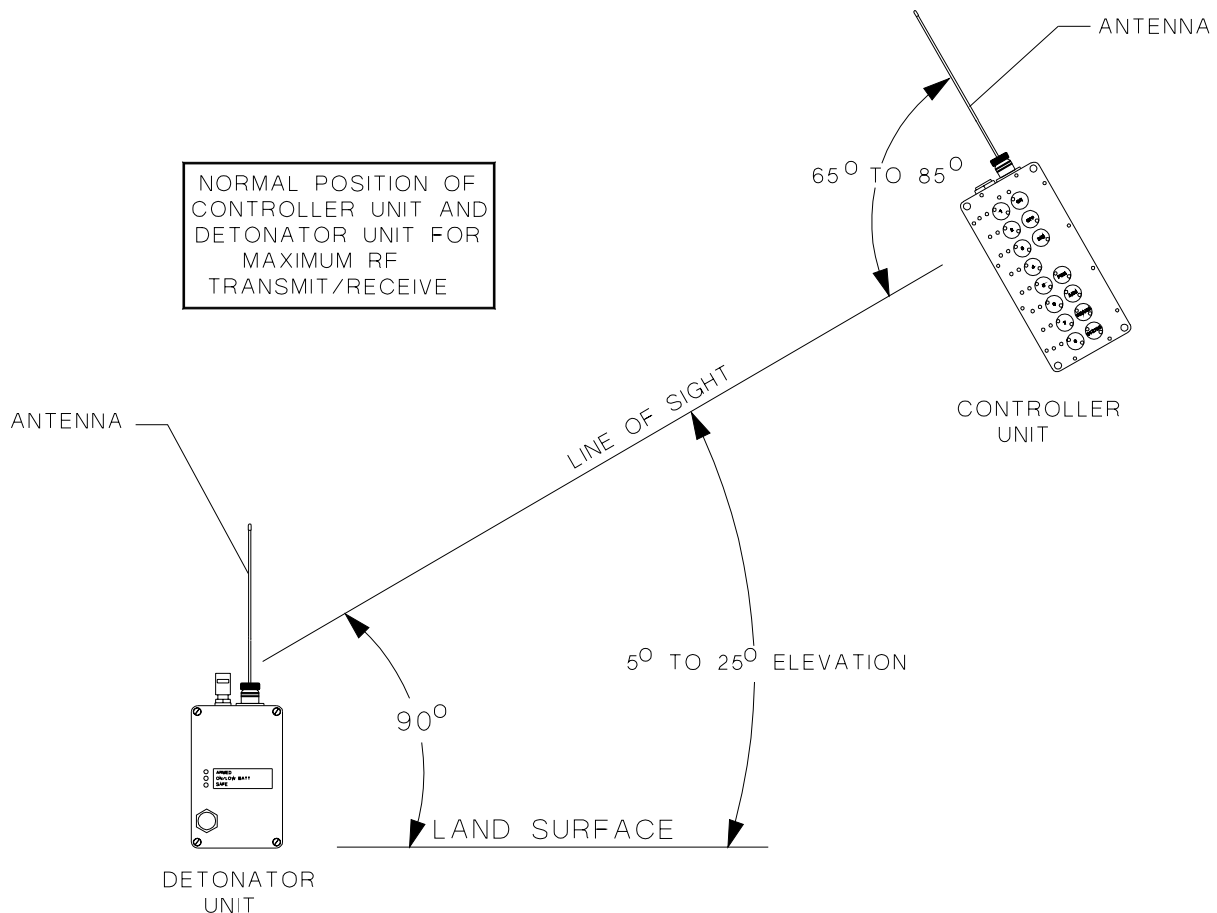
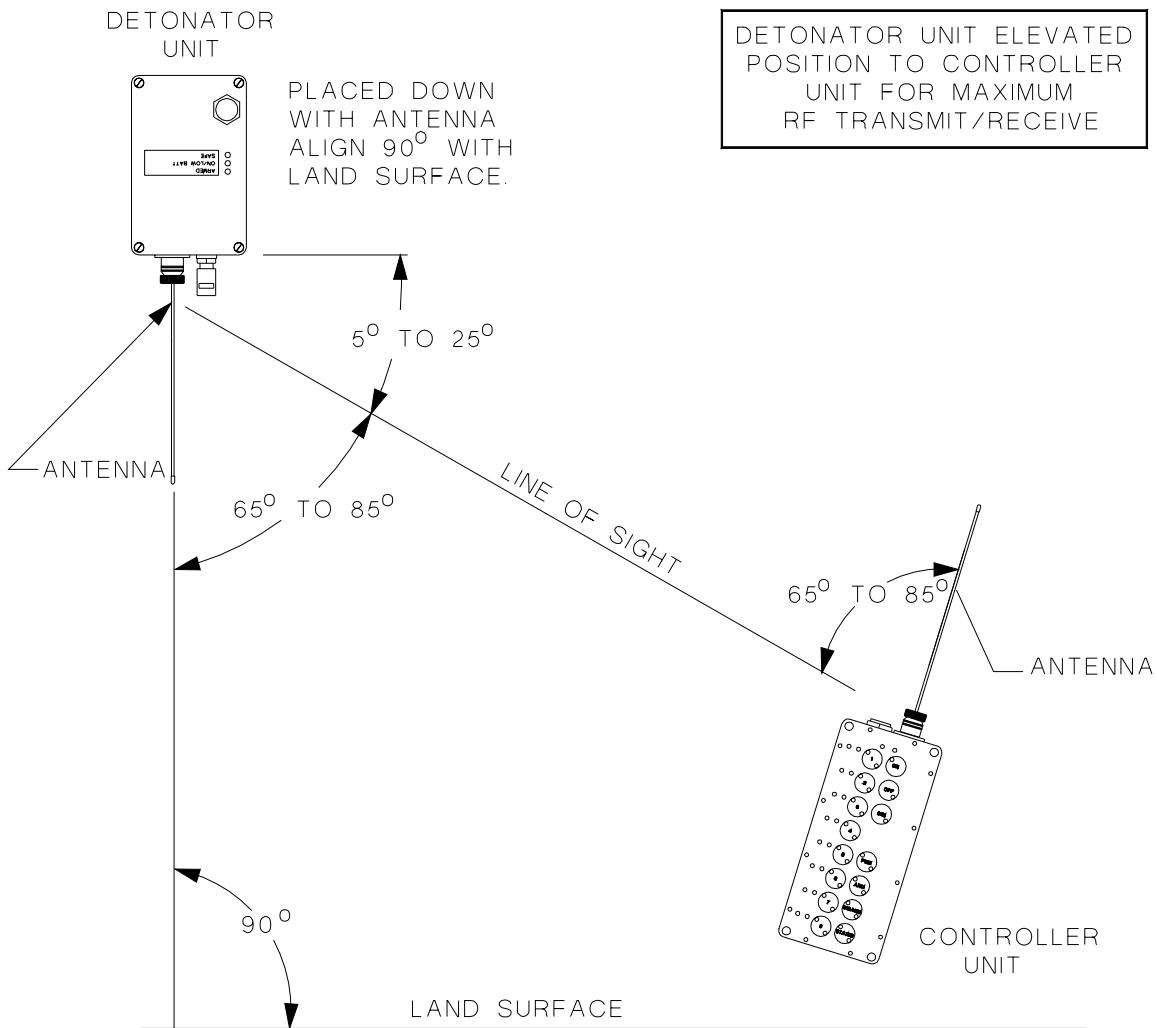
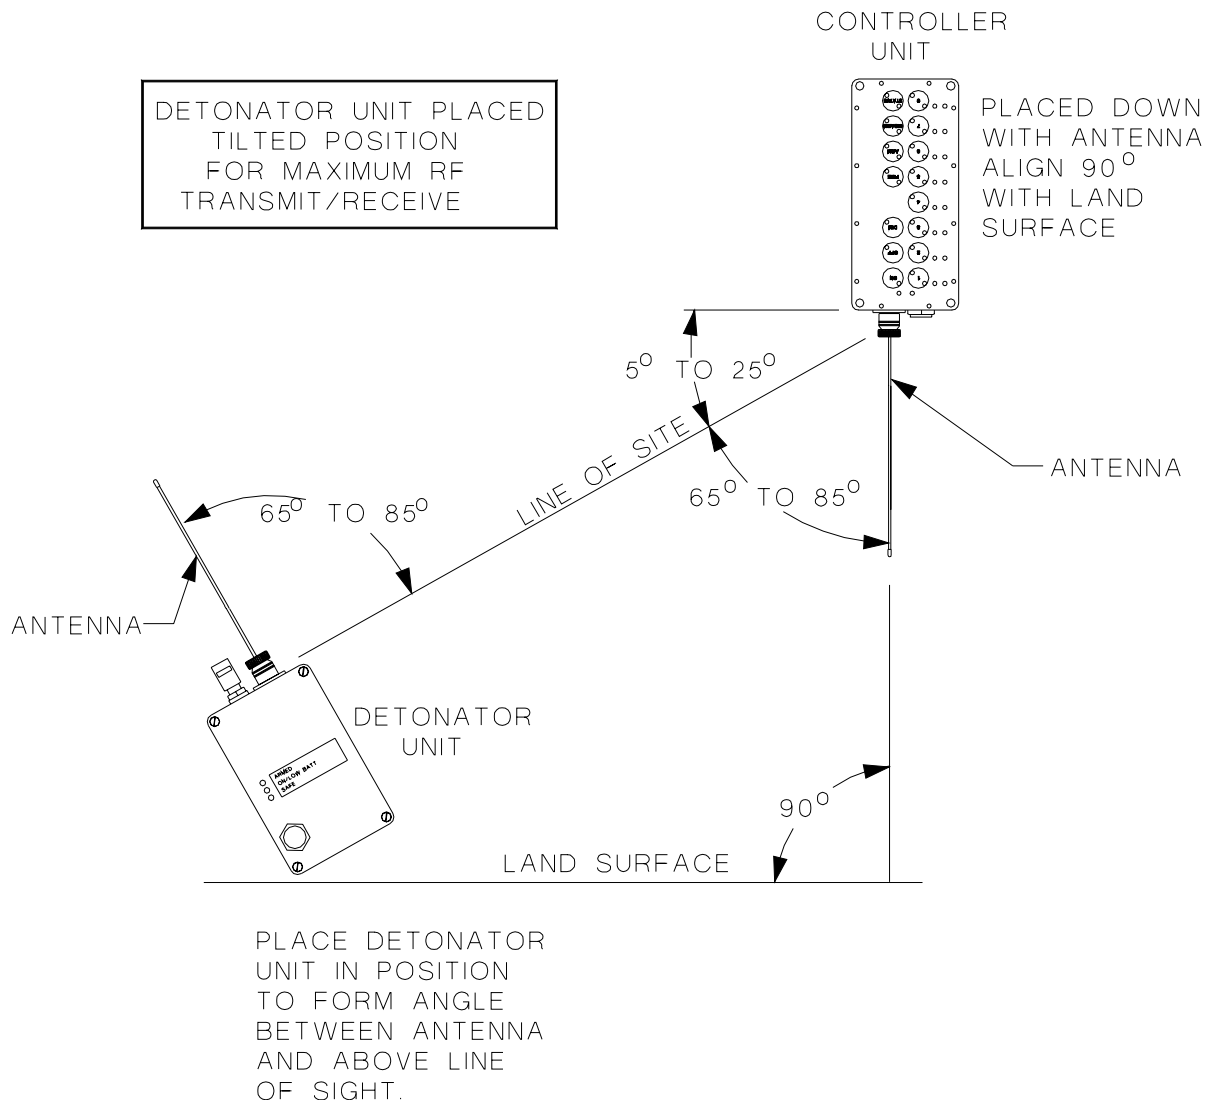
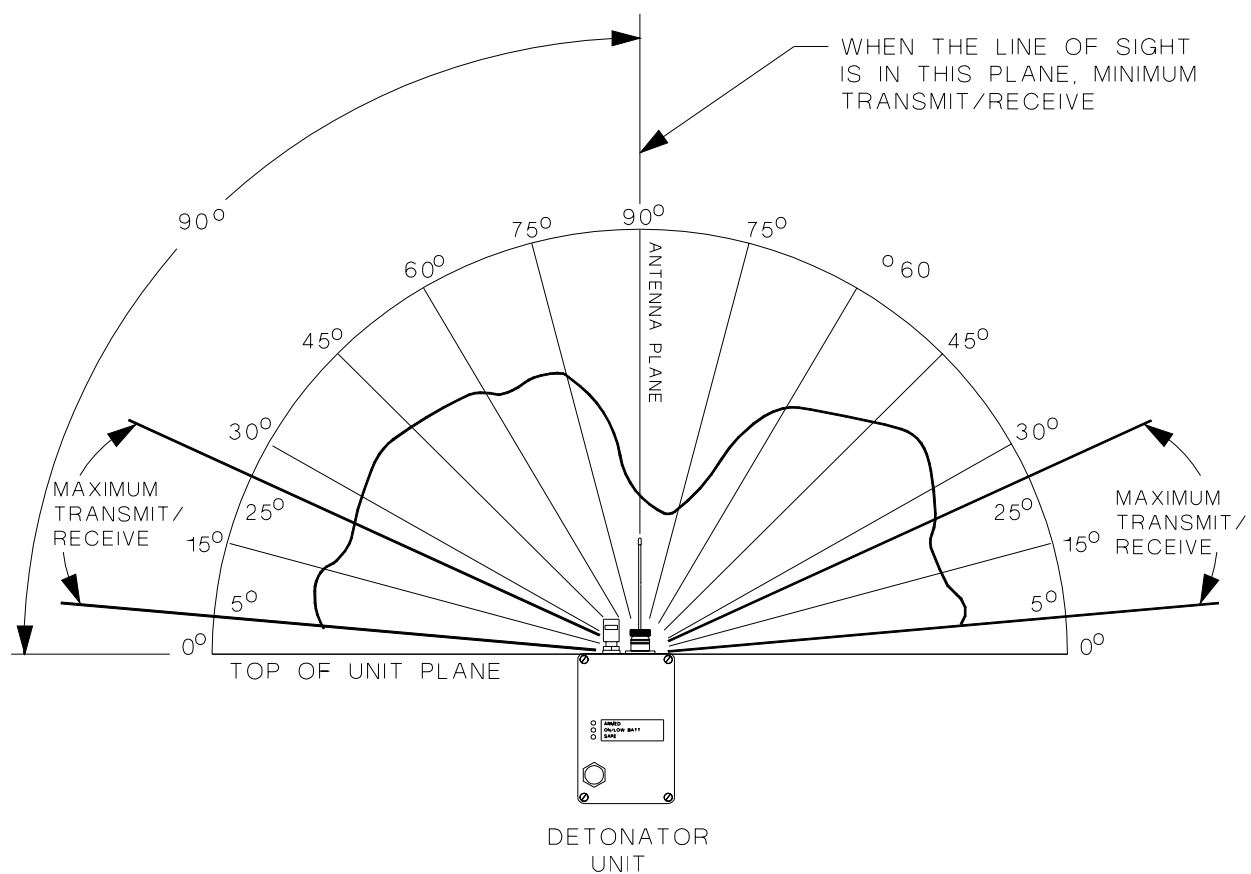

Figure 8-1 Unit Normal Transmission Location.
Figure 8-2 Detonator Unit Elevated.
Figure 8-3 Detonator Unit Tilted.
Figure 8-4 Antenna Radiation Pattern
8.1.1. When power lines are in the area, the radio transmission distance is reduced. The System can operate at the following distance, when the Controller Unit is elevated to a maximum transmission location angle to the Detonator Unit location (see Figure 8-1).
8.1.2. If the Controller unit and Detonator Unit must be placed in a position other than location in Figure 8-1, use Figure 8-2 or Figure 8-3. The minimum transmission will occur when the Controller Unit antenna and the Detonator Unit antenna are placed in the line of site. The maximum transmission occurs when the line of site lays in a path of 5 to 25 degrees above Unit top plane perpendicular to the antenna. Both the Controller Unit antenna and the Detonator Unit Antenna have the same radiant energy pattern as shown in Figure 8-4.